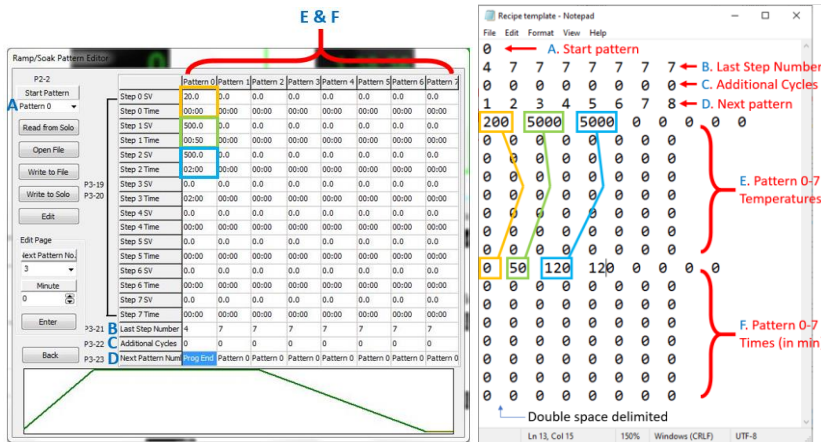

Figure 8: Ramp/Soak Pattern Editor
- i. Start Pattern: User may choose the pattern to begin the ramping. Choose from 0-7 (Figure 8, A)
- ii. Last Step Number: ignores any input after this step. (Figure 8, B)
- iii. Additional Cycles: repeats this pattern by the input number. (Figure 8, C)
- iv. Next Pattern: If you run out of space in Pattern 0, you may continue in Pattern 1 and indicate 1 here. 8 represents the end of recipe, "Prog End." (Figure 8, D)
- v. Temperatures: The columns in the editor correspond to rows in the notepad. (Figure 8, E)
- vi. Times: The columns in the editor correspond to rows in the notepad. (Figure 8, F)